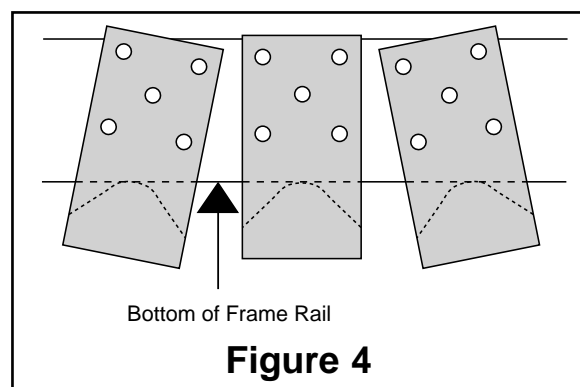

Figure 4
4. To install the upper bracket, lower axle or raise frame until the upper bracket is in line with the lower and on the same angle as the leaf spring. The upper bracket must be parallel and perpendicular to the lower bracket. The upper bracket is designed so that it can be "tilted" for the proper angle (Figure 4). **The bottom of the upper bracket must fit tight to the bottom of the frame rail (Figure 5).** It is necessary to use